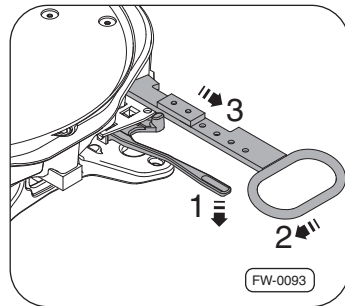

Fig. 8 · Open the lock
1. Push the safety handle down by thumb Fig. 8, –arrow 1– and swivel the release handle to the left –arrow 2–.